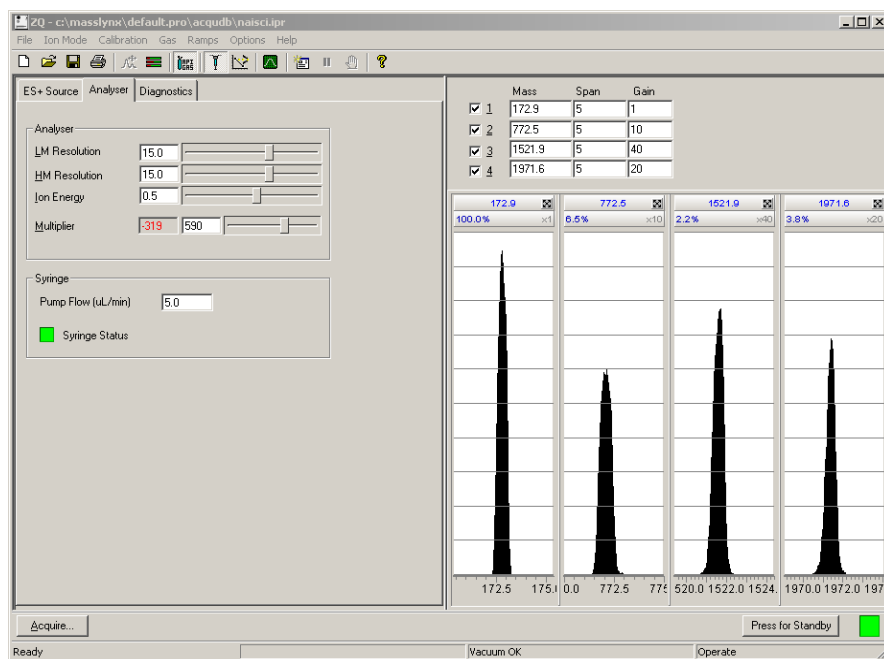

Figure 3-9 Diagnostics Page Readbacks
2. Evaluate readbacks, including those on the Diagnostics page (Figure 3-9). Most Source and Analyser page readbacks should match the parameter values you specify.